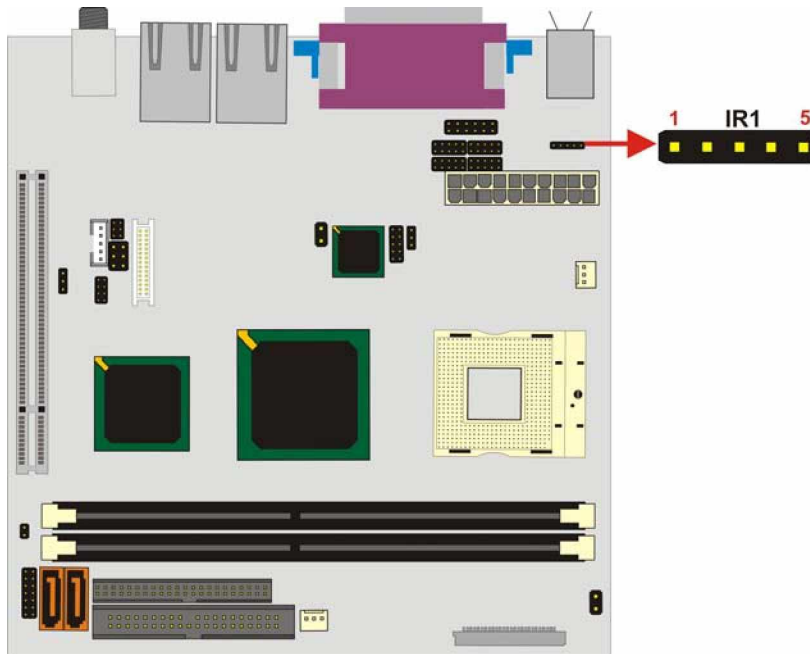

Figure 3-11: IR Connector Pinout Locations
- CN Location:** See Figure 3-11